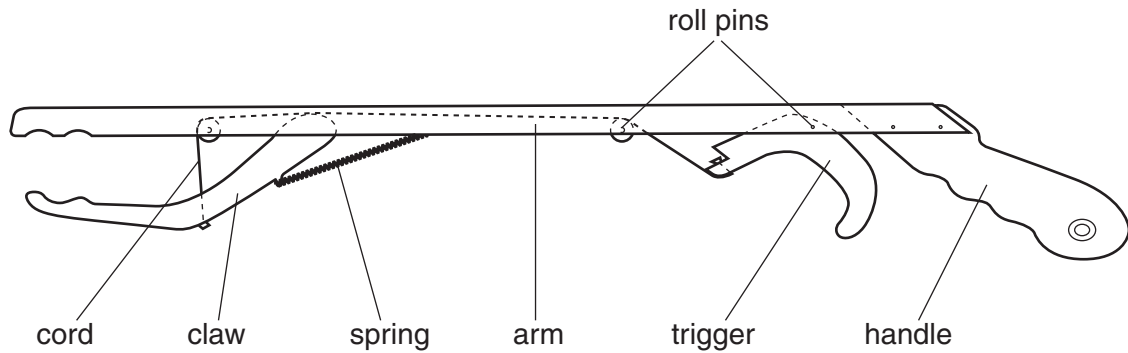

Fig. 1
Fig. 1 shows a view of a handheld mechanical reacher.
- (e) The handle, trigger, and claw of the reacher shown in Fig. 1 are all held in position by roll pins.